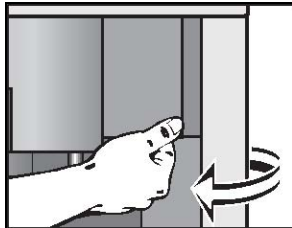

Figure 3-6: Pull Door Open
1. Open the appliance door by holding the grip next to the hot-water spout and pulling the door towards you. See Figure 3-6.